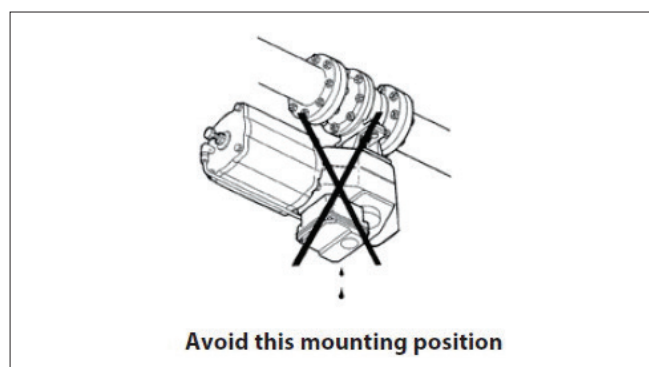

Fig. 3 Avoid this mounting position
4. It is not recommended to install the valve with the stem on the underneath side because dirt in the pipeline may then enter the body cavity and potentially damage the stem packing (see Figure 3).
Install the valve in the pipeline so that the shaft is horizontal if possible. However, Valmet does not recommend installing the valve with the actuator on the underside (Figure 3) because dirt in the pipeline may damage the gland packing.